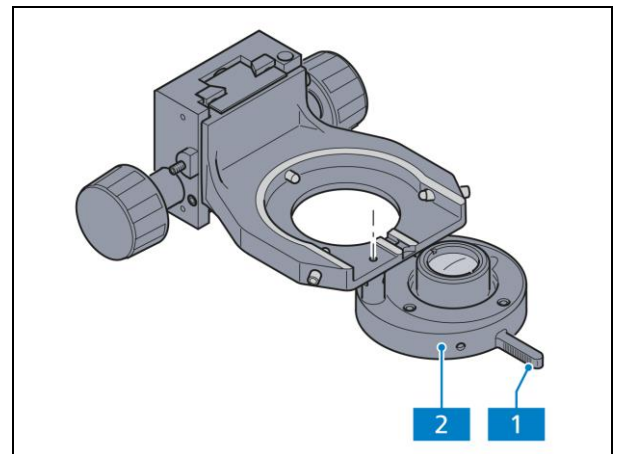

Fig. 2-20 Low-power system
- Swivel the low-power system (Fig. 2-20/2) into/out of the beam path using the handle (Fig. 2-20/1). Ensure that the low-power system snaps in securely when swiveled in.